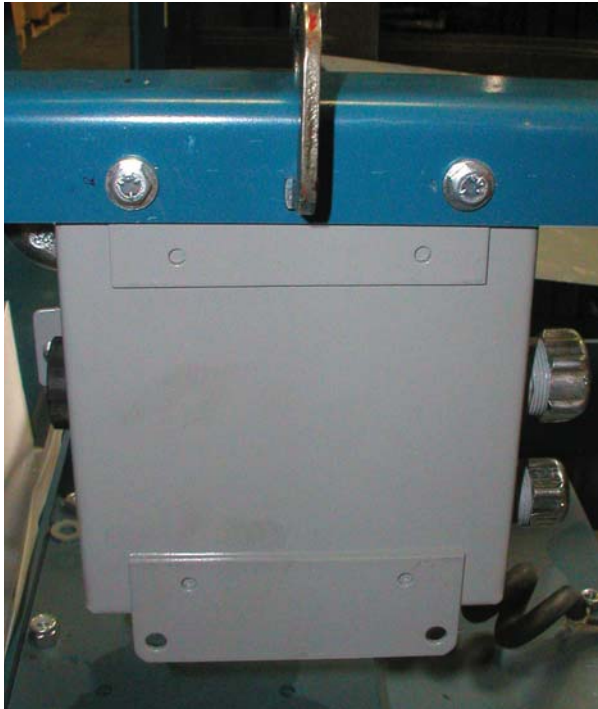

FIGURE 16
15. Mount the enclosure as shown using the 1/4" hardware provided. The mounting bolts must be inserted from the rear of the carriage to prevent interference with the rear panel. See Figure 16.